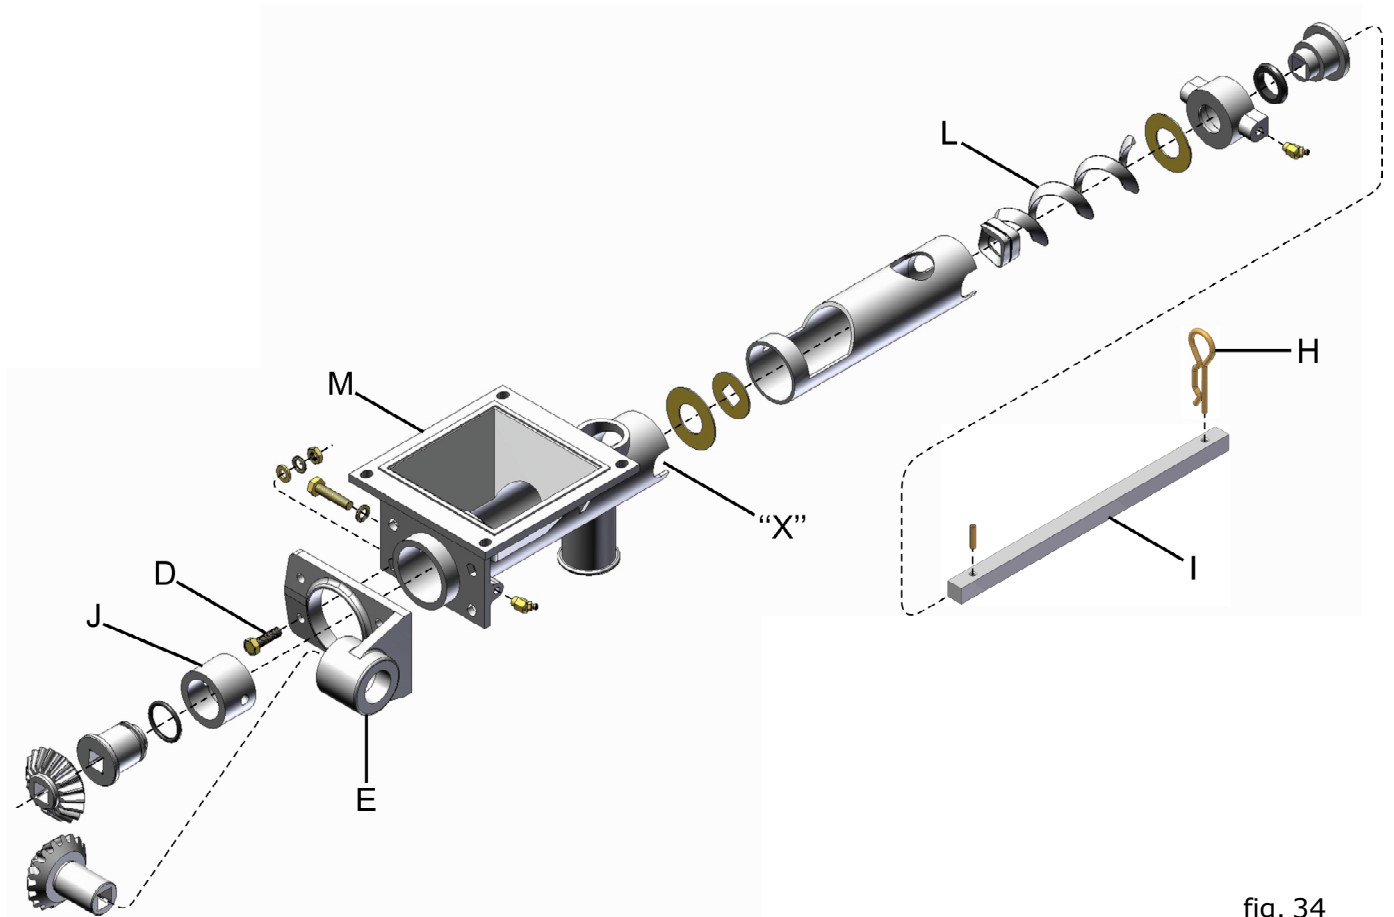

fig. 34
- 1** - Loosen the screws (D) (fig. 34), that fasten the base of gears (E), releasing it;
- 2** - Remove the stop pin (H) and the axle (I) in the direction of the roll pin, which does not need to be disassembled;
- 3** - Remove the bushing (J) and the endless thread (L) by extremity ("X") of the housing (M);